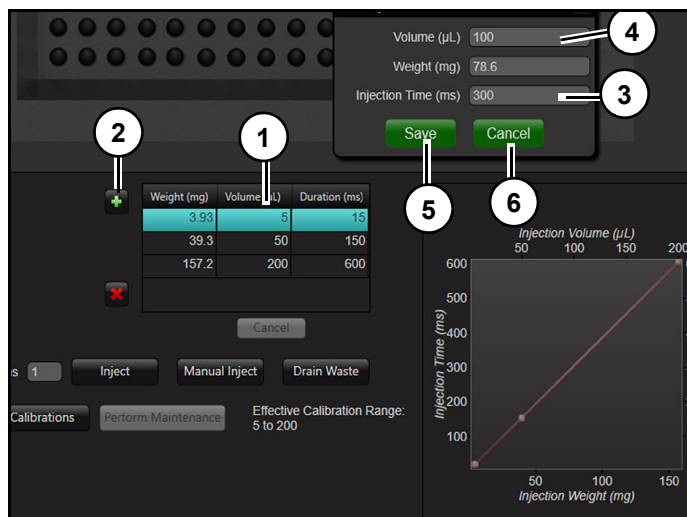

Figure 13
In (Figure 13), Acetonitrile Valve has volume points for 5 µL, 50 µL, and 200 µL (1).